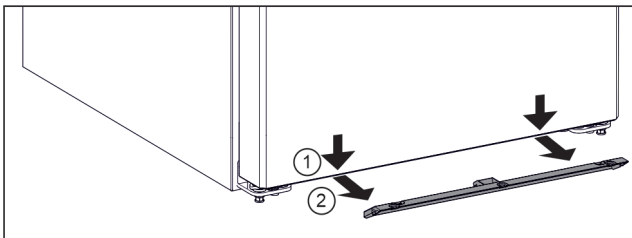

Fig. 5
- ▶ Pull the mosquito screen down. Fig. 5 (1)
- ▶ Take out the mosquito screen to the front. Fig. 5 (2)